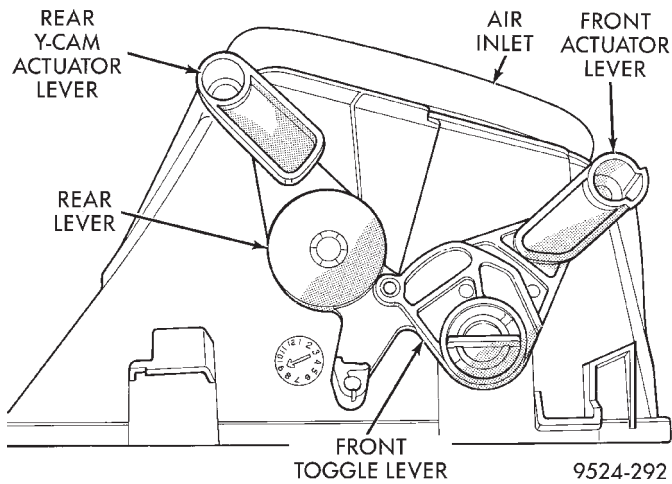

Fig. 80 Rear Y-Cam Actuator
- (5) Remove rear Y-cam actuator lever (Fig. 80).
- (6) Turn front toggle lever until it lines up with slots on housing.
- (7) Pull straight up on toggle lever and slide toggle lever from underneath front actuator lever (Fig. 80).
- (8) Remove front toggle lever (Fig. 80).
- (9) Remove Y-cam rear lever (Fig. 80).